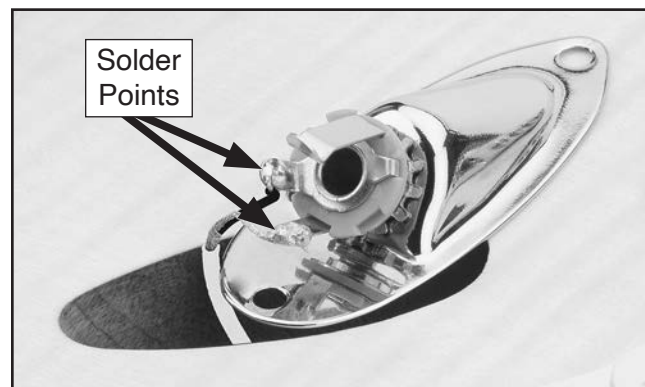

Figure 13. Wires soldered to output jack tabs.
1. Solder (1) black wire and (1) yellow wire from **Step 3** on **Page 9** to tabs on output jack, as shown in **Figure 13**.